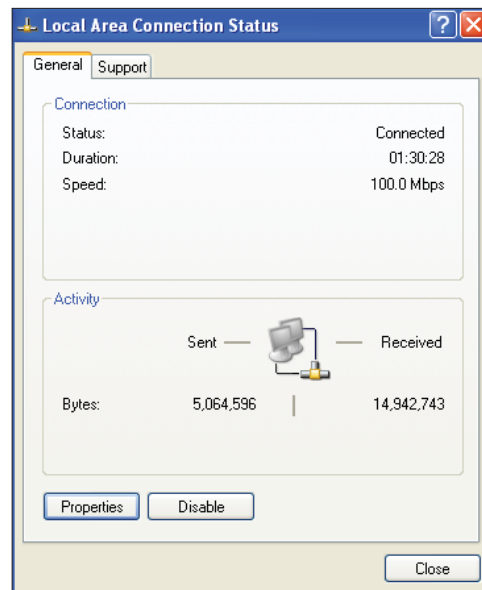

Figure 6: Local Area Connection Status Window
- 3.) In the *Network Connections Window*, double-click the **Local Area Connections** entry. The *Local Area Connection Status Window* will appear (**Figure 6**).
- 4.) As shown in **Figure 6**, click <Properties> in the lower left of the window. The *Local Area Connection Properties Window* will appear.